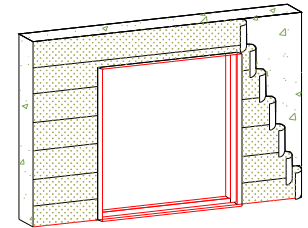

Figure 12
- C. Finally, at the head, embed the flashing into the sealant on the mounting flange and fasten into place. The flashing paper should be cut sufficiently long enough to extend past the flashing paper at each jamb by at least 3 in. (See fig. 12)